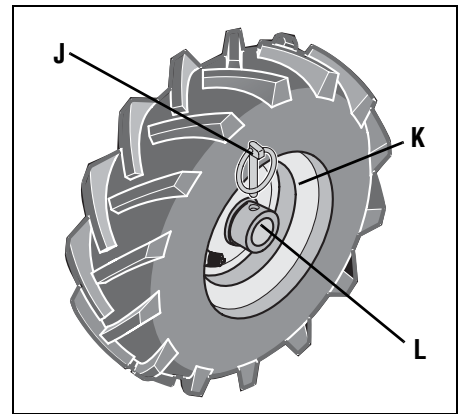

Fig. 2-3: Wheel in FREEWHEEL position (wheel drive pin through wheel shaft only).
2. Remove the Klik Pin (J, Fig. 2-3) from the wheel hub (K) and wheel shaft (L).
3. Slide the wheel fully inward on the wheel shaft (N, Fig. 2-3). Reinstall the Klik pin (J)